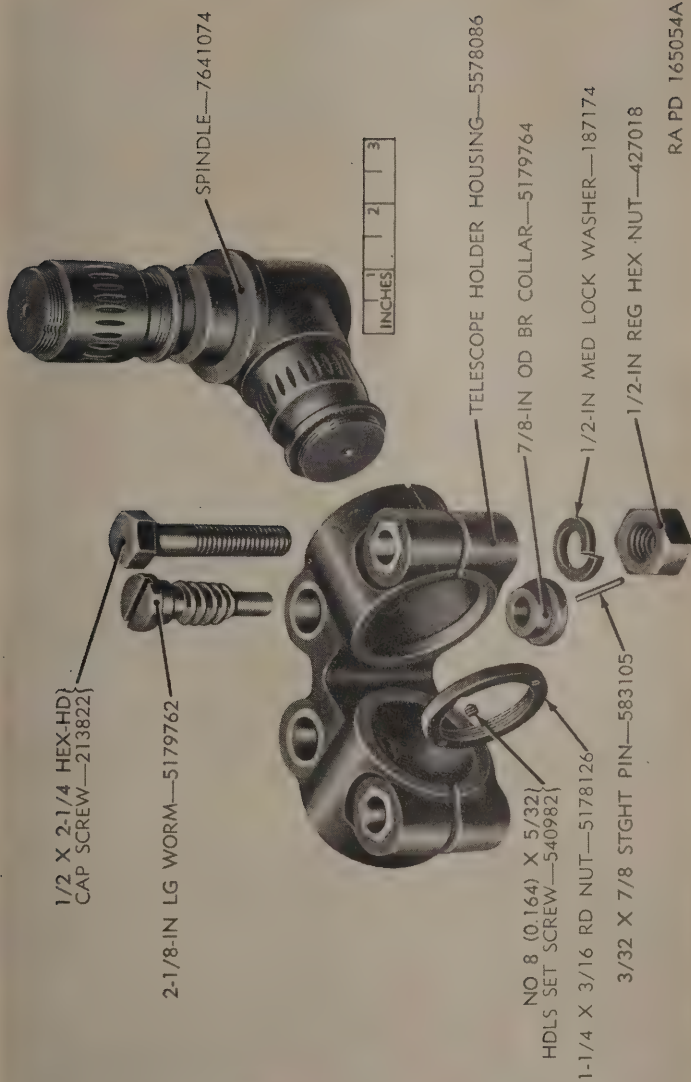

Figure 80. Telescope mount M71—removal of the spindle from the telescope holder housing.
(fig. 80)
## **241. Installation of the Spindle Into the Telescope Holder Housing** (fig. 80)
c. Insert a  $\frac{1}{2}$  x  $2\frac{1}{4}$  hex-head cap screw (fig. 80) into the telescope holder housing. Slide a  $\frac{1}{2}$ -inch medium lockwasher on the cap screw. Screw a  $\frac{1}{2}$ -inch regular hex nut on the cap screw. Tighten the cap screw and hex nut. This clamps the spindle securely in the telescope holder housing.